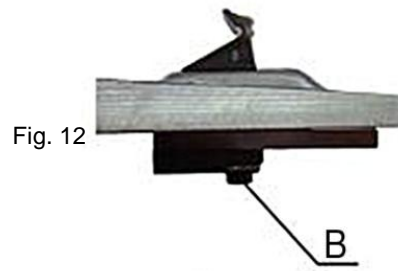

Fig. 12
- Check the bolts under the turntable (Fig. 12-B) monthly tighten and adjust if necessary.